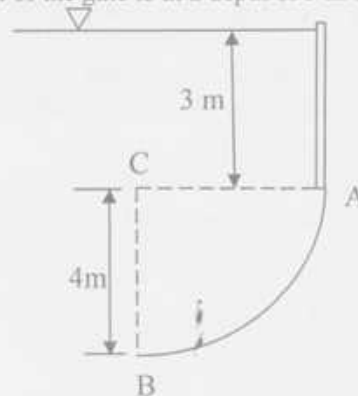

Figure- 2
2. (a) Prove that pressure at any point in a fluid at rest is the same in all directions. (5)
- (b) Determine vertical and horizontal components of force acting on radial gate ABC and their line of action. The shape of the gate is a quadrant of a circle of radius 4 m (Figure-2). The upper portion of the gate is at a depth of 3 m from the free surface. (12)